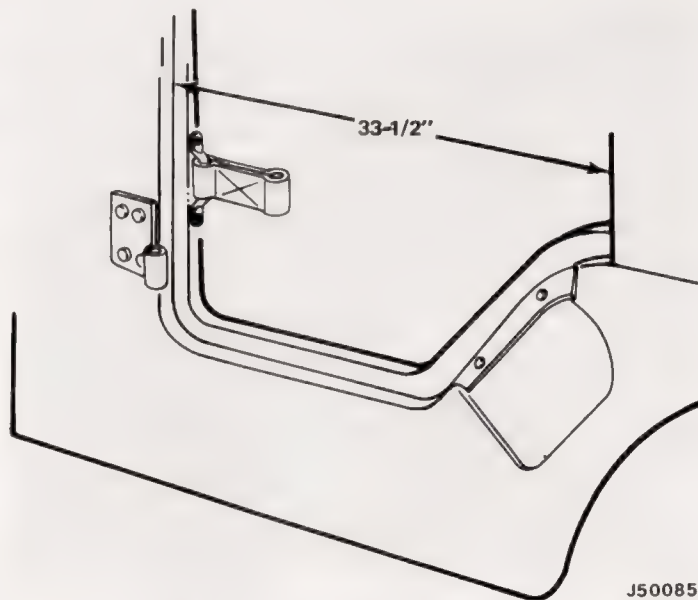

Fig. 2-17 Quarter Panel Positioning
- (1) Temporarily place quarter panels in their approximate positions on body. Locate panels as closely to, but no closer than, 33-1/2 inches back from front edges of door openings and with outer surface of panels aligned with outer surfaces of body. Hold or clamp quarter panels in position (fig. 2-17).
- (2) Use quarter panels as templates and mark hole locations on top edges of body with center punch. Remove panels and drill 9/32-inch holes through body at locations marked.
- (3) Apply strip sealant along top edges of body where quarter panels will rest, positioning it outside of drilled holes.